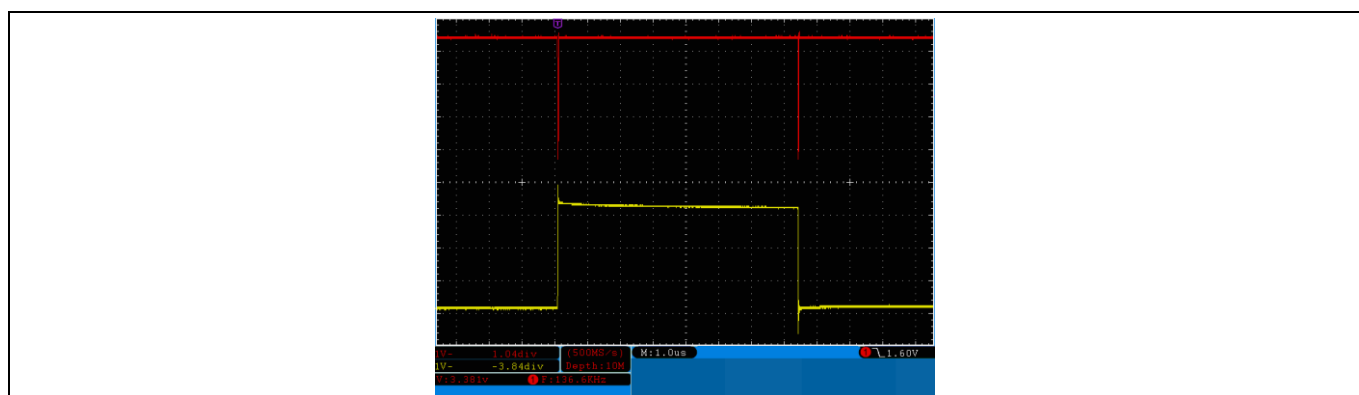

Figure 54 Top: WEN#, Bot: FD[0]
7. The text window in the lower right corner confirms the transfer, and the scope should trigger on the negative edge of the WEN# pulse (Figure 54).